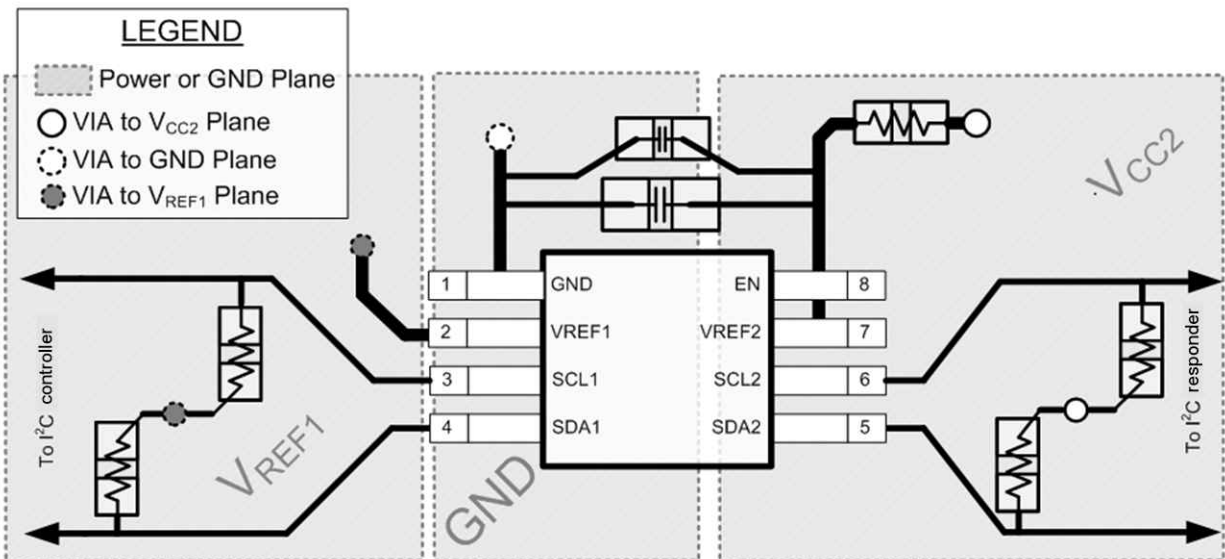

图 11-1. Layout Example
In all PCB layouts, it is a best practice to avoid right angles in signal traces, to fan out signal traces away from each other on leaving the vicinity of an integrated circuit (IC), and to use thicker trace widths to carry higher amounts of current that commonly pass through power and ground traces. The 100-pF filter capacitor should be placed as close to V_{REF2} as possible. A larger decoupling capacitor can also be used, but a longer time constant of two capacitors and the 200-kΩ resistor results in longer turnon and turnoff times for the TCA39306 device. These best practices are shown in 图 11-1.
For the layout example provided in 图 11-1, it would be possible to fabricate a PCB with only two layers by using the top layer for signal routing and the bottom layer as a split plane for power (V_{CC}) and ground (GND). However, a four-layer board is preferable for boards with higher-density signal routing. On a four-layer PCB, it is common to route signals on the top and bottom layer, dedicate one internal layer to a ground plane, and dedicate the other internal layer to a power plane. In a board layout using planes or split planes for power and ground, vias are placed directly next to the surface-mount component pad, which must attach to V_{CC} or GND, and the via is connected electrically to the internal layer or the other side of the board. Vias are also used when a signal trace must be routed to the opposite side of the board, but this technique is not demonstrated in 图 11-1.